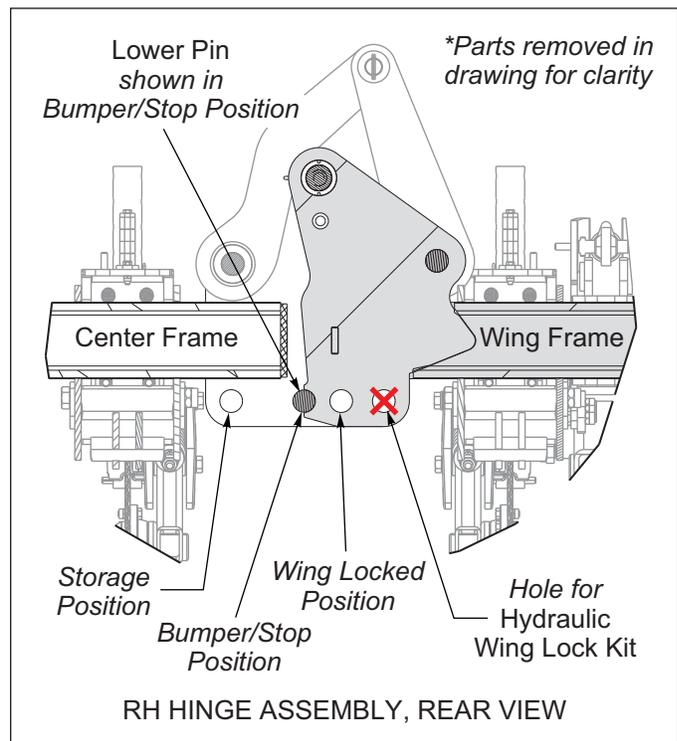

Figure 4-6: Folding Frame Wing Lock
6. The removable, Lower Pin (P/N 179470) in the rear hinge assembly can be located in 3 different positions in the lower rear hinge assembly. Each position has a different function. See Figure 4-6.
During field operation, the wing fold hydraulic system MUST be operated in Float Position (tractor setting) once the wings are unfolded OR the wings MUST be locked down (Wing Locked Position). Failure to do so may result in wing fold cylinder damage. See Figure 4-6.